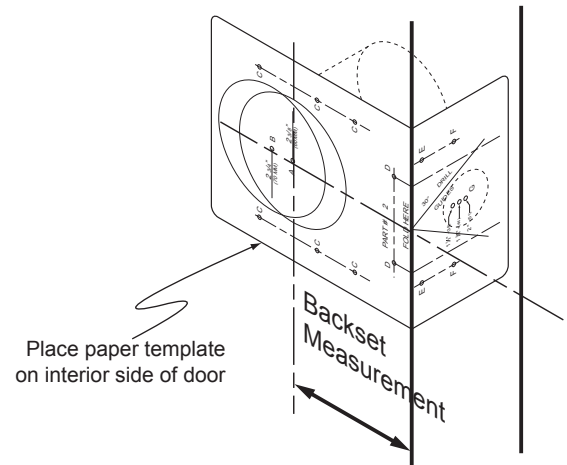

Figure 5
Refer to the backset measurement recorded in step 3b, and determine the appropriate lock center (A or B) on the paper template or set the drilling jig to the proper backset. Fold and place the template on the **INTERIOR** of the door as shown in Figure 5, and mark the location of pilot hole A or B. Refer to the door thickness as measured in step 3b and mark the deadbolt center hole (G) that matches your door thickness.